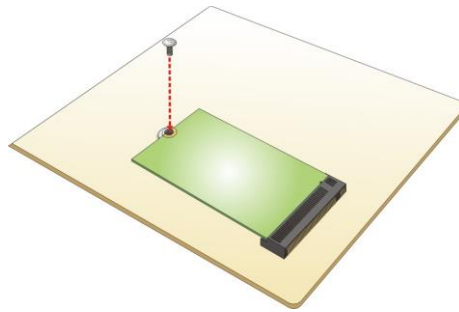

Figure 3-8: Securing the WLAN Module
- Step 4:** Secure the WLAN module with the retention screw previously removed (**Figure 3-8**).